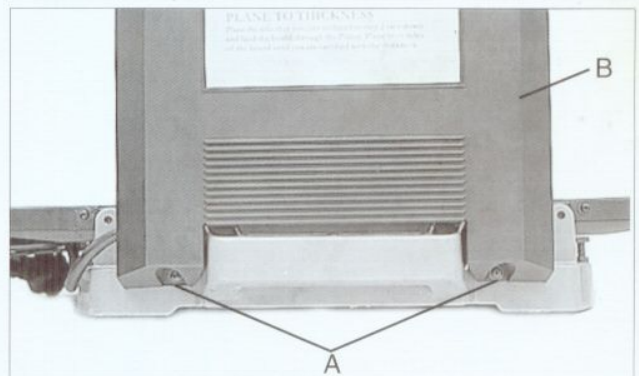

Fig.31
2.Remove two screws (A) Fig.31,located on bottom of left side cover of planer,and remove left side cover (B).